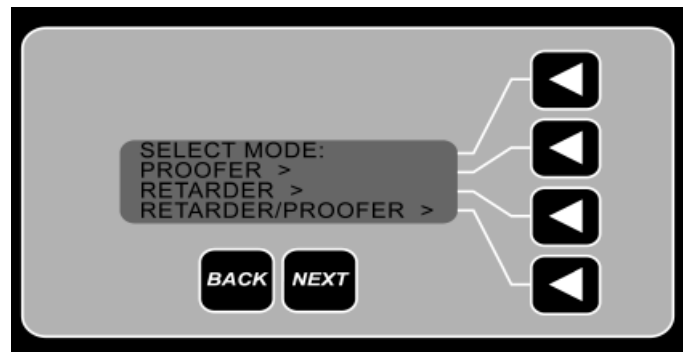

Fig. 2
The LCD panel displays three options after the ON/OFF button is pressed (See Fig. 2).
- Press the "PROOFER" operation arrow button (See Fig. 2).
- Press the "RETARDER" operation arrow button (See Fig. 2).